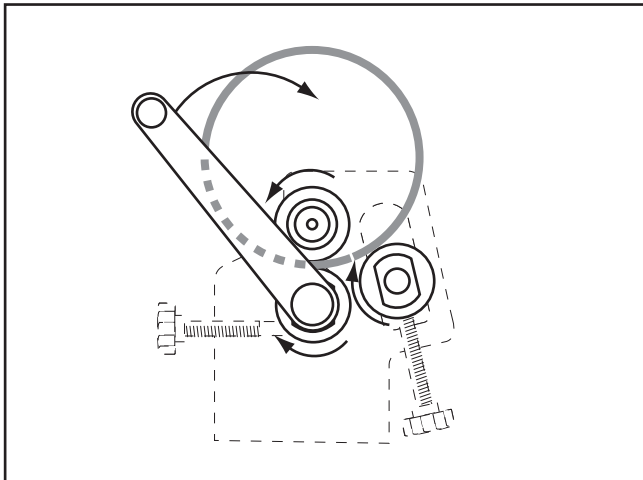

Figure 27. Finishing the cylinder.
6. Continue to process the workpiece until the cylinder is formed, as shown in **Figure 27**.